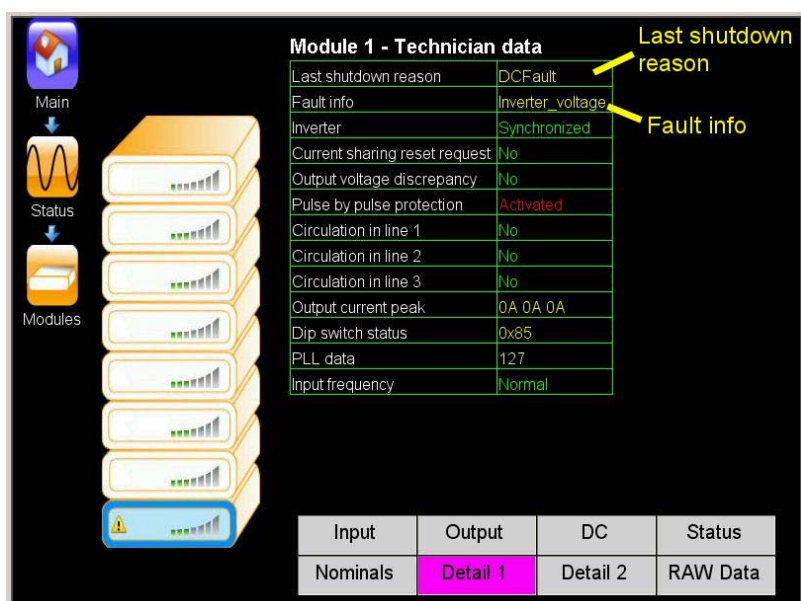

Figure 80: Last shutdown reason
3. In the same screen, tap “Detail 1” and look at the “Fault info” field (Figure 80). This field indicates the problem that caused the module’s alarm.